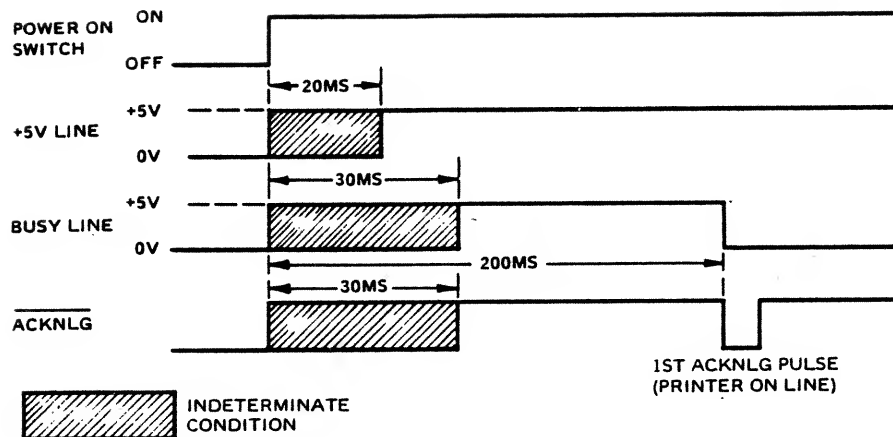

Figure 10. ACKNOWLEDGE TIMING ON POWER-UP
All logic, control, drive, and power supply circuits are contained on one printed circuit board within the printer (Figure 10). The print head is mounted on a carriage assembly driven by a DC motor. Printing is performed in the forward direction only (left to right), printing up to seven dots per column. The paper drive roller is driven by a line feed solenoid which advances paper one line (1/6 inch) each time the line feed solenoid is actuated. The ribbon drive motor (AC) moves ribbon past the print head at all times except when the carriage assembly actuates the sensor at the leftmost carriage position. The power supply provides +5V regulated, +5V EXT SENSE for host device sense, +12V regulated for motor drive, +17V for solenoid drive, and +24 VAC for the ribbon drive motor.
Figure 10 shows the acknowledge timing on power-up. When power is initially turned on, approximately 20 msec is required for internal voltages (+5V) to stabilize. Within 30 msec after power is turned on the BUSY signal is generated and the printer remains in the BUSY condition for the next 170 msec. The BUSY signal is then terminated and the printer generates the first acknowledge pulse indicating that the printer is no longer BUSY, is on line, and is ready to accept data. Data should not be sent to the printer until the first ACK signal is sent to the host device.